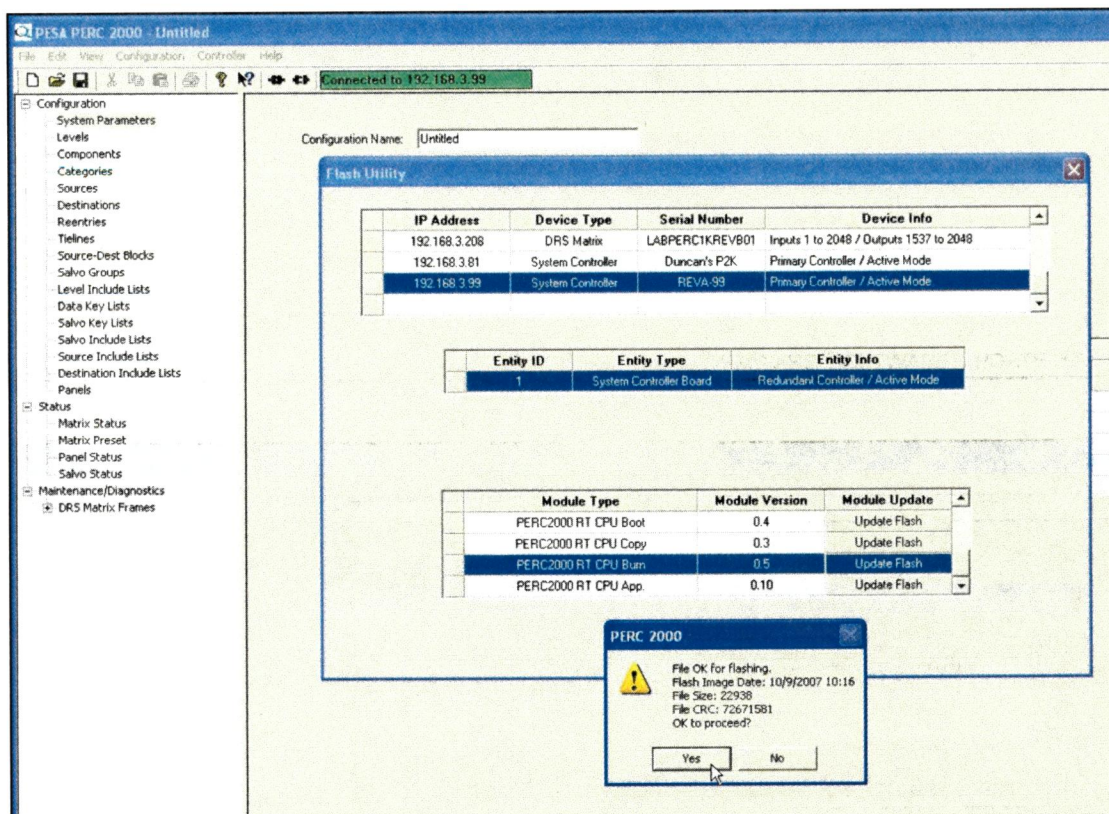

Figure 18. Caution Dialog Box
- ☐ 7. The OK to proceed? window, Figure 18, is displayed. Click the **Yes** button to begin the reprogramming operation.